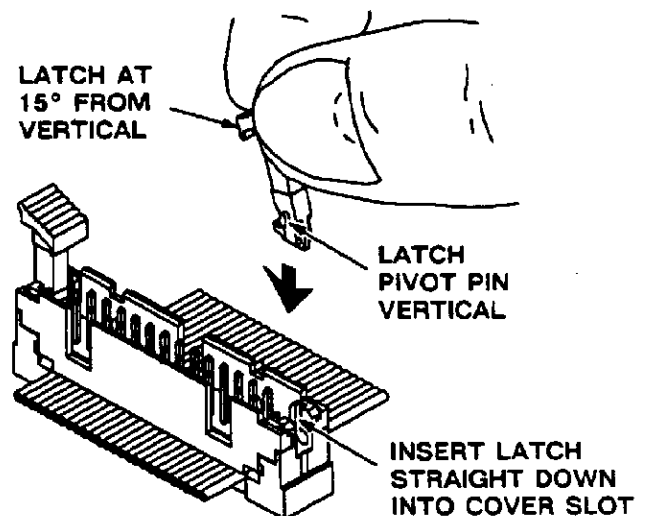

Fig. 2
1. Hold latch so that it tilts inward 15° from vertical; latch pivot pin should be vertical as shown in Figure 2. Insert latch straight down into slot in cover.